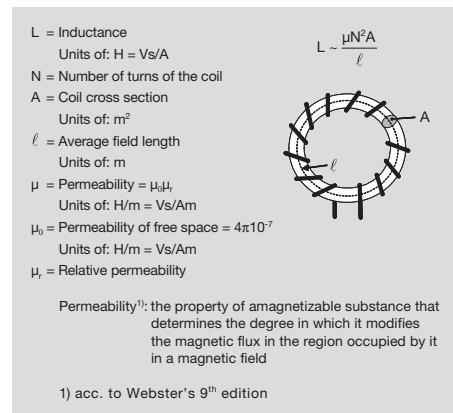

**Figure 1.41 Inductance of a Toroid**
The inductance of this toroid structure is also a function of the core material. The core material has a characteristics called permeability ( $\mu$ ). This is defined as the relative ability of a magnetizable material to affect the magnetic flux of a magnetic field. Materials with a high permeability are used to make inductors with higher inductance. Figure 1.41 shows how the inductance of a toroid structure is calculated. Inductance is measured in units of Henrys (H).